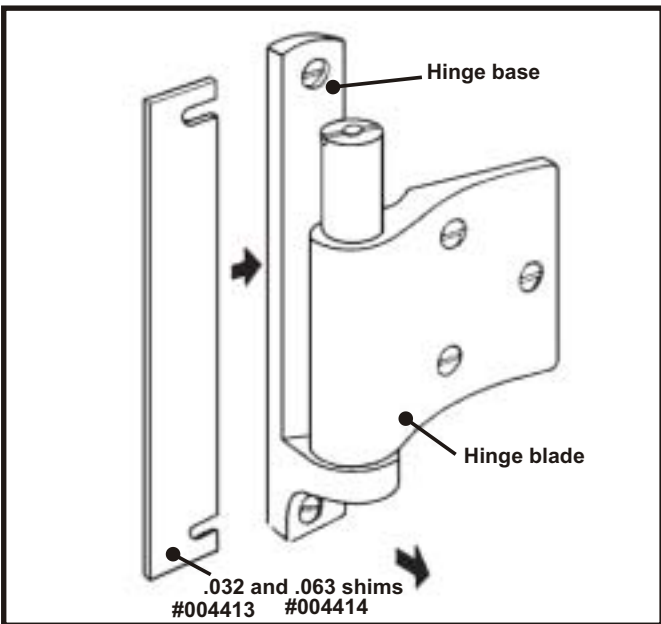
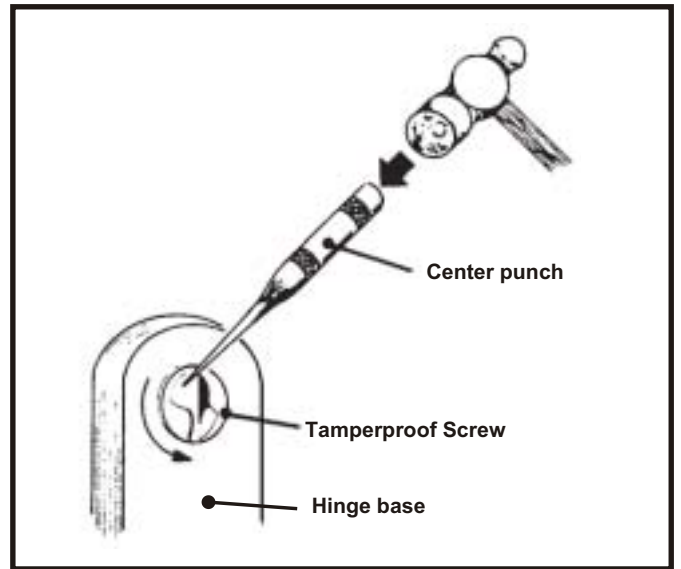
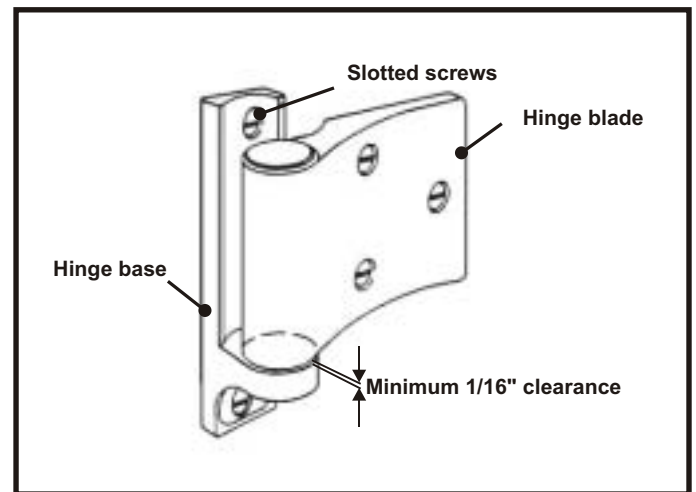

Fig. 5
Fig. 6
Fig. 16
- B. To shim hinges on walk-in doors, loosen the machine screws on the base of the hinge enough to slip the required number of shims into place behind the base. See Fig. 5. Where tamper-proof screws are used, loosen them by tapping the screw head counter-clockwise with a center punch and hammer as shown in Fig. 6.
- A. Close the door. Securely shim it between the outside doorcap and the door frame. Remove the slotted machine screws from the hinge base and blade. Refer to Fig. 6 if tamperproof screws are used. Remove the defective hinge assembly. Secure the new hinge assembly with a screwdriver by tightening the machine screws in the same holes.
- A. Close the door and shim the cap securely around the perimeter of the frame. Remove the slotted machine screws from the hinge base and blade. Refer to Fig. 6 if tamperproof screws are used. Remove the defective hinge assembly. See Fig. 16 for clarification.